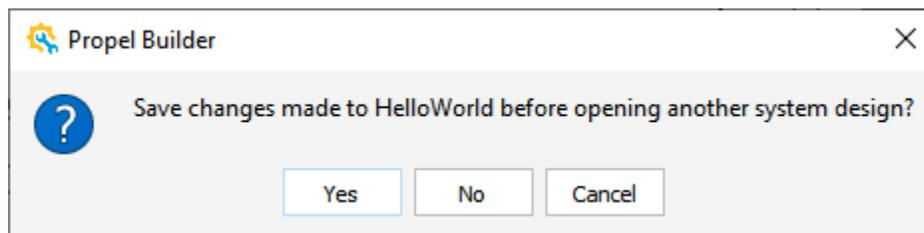

Figure 2.70. Propel Builder Dialog Box
2. Click **Switch Verification and Soc Design** icon  from Propel Builder GUI Toolbar. Propel Builder dialog box opens (Figure 2.70), if a project is not saved.